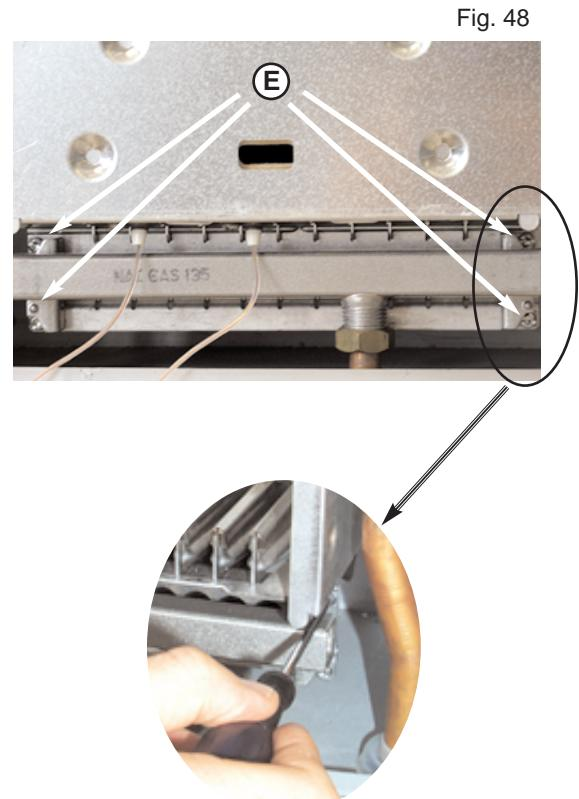

Fig. 48
3. Unscrew the 4 screws "E" securing the burner and lift clear (see Fig. 48).
2. Remove the two self tapping screws "F" securing the burner (see Fig. 48);